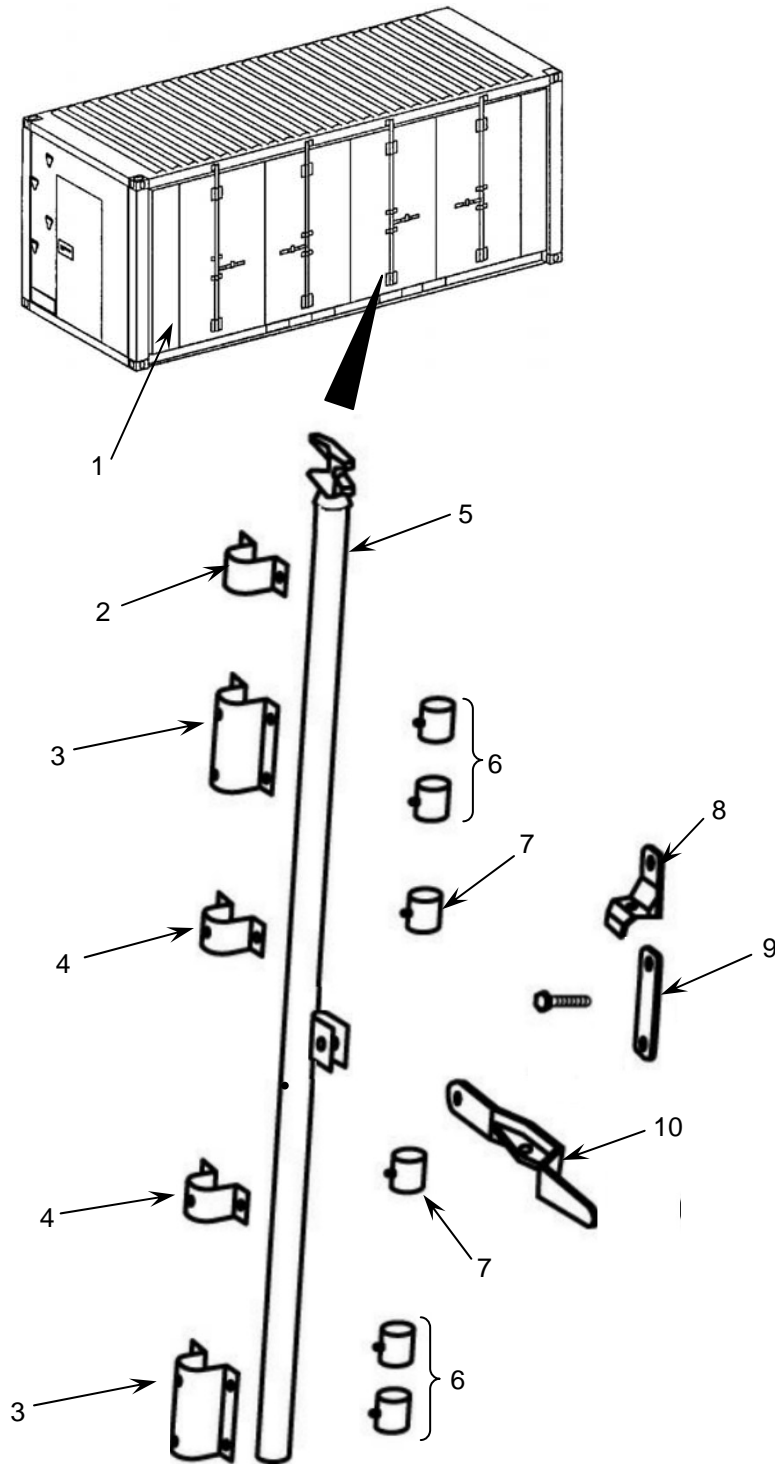

Figure 8. Camlock Assembly Replacement
Container Camlock Assembly Replacement: If a component of the camlock assembly is damaged, refer to the specific step(s) to replace that component. The procedure below is for replacement of the entire camlock assembly (Figure 8).
1. Lock wing (Figure 8, Item 1) in closed position utilizing the camlocks not subject to removal.
2. Using ladder, and with two personnel, lift the camlock to the open position. Remove brackets (Figure 8, Items 2, 3 and 4) securing the camlock assembly. Remove camlock assembly.
3. Position replacement pipe assembly (Figure 8, Item 5) on wing (Figure 8, Item 1), hold in place with the aid of maintenance personnel. Position upper bracket (Figure 8, Item 2) on pipe and secure with screws.
4. Position replacement brackets (Figure 8, Items 3 and 4) into place and secure loosely with screws on one side.
5. Install replacement bushings (Figure 8, Items 6 and 7) in place under the brackets (Figure 8, Items 3 and 4). Secure the other side of brackets with screws. Tighten loose screws on other side.
6. Install replacement catch (Figure 8, Item 8) retainer (Figure 8, Item 9) and handle (Figure 8, Item 10) on pipe assembly (Figure 8, Item 5).